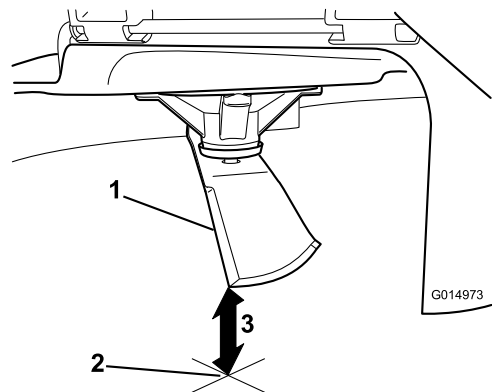

**Figure 106**
3. Measured distance between blade and the surface (A)
4. Rotate the same blade 180 degrees so that the opposing cutting edge is now in the same position (Figure 106).